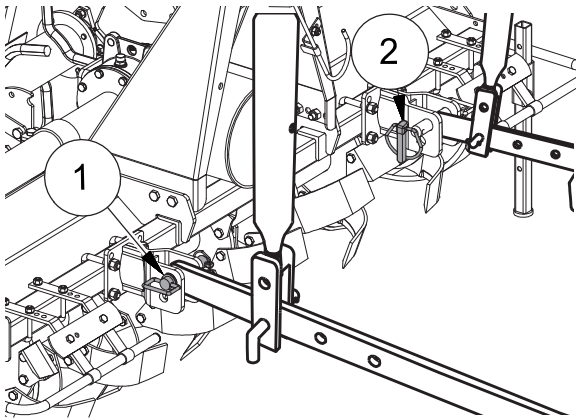

FIG. 18
- Move the power-lift bars to the lower hitches ("Fig. 18"). Insert the attachment pins (1). Fasten the pins with the trigger pins (2) part of standard equipment.